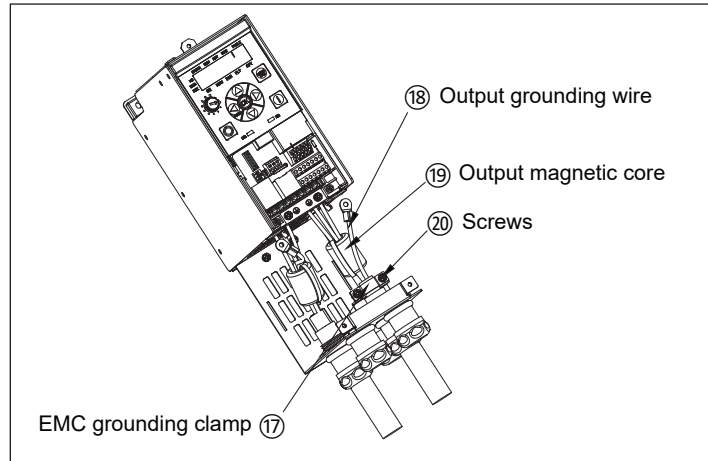

Figure 7. Routing the output cable and motor wires.
- B. Run the output cable (3 motor wires + 1 output grounding wire) through the power wires conduit fitting ⑬ and EMC grounding clamp ⑰. Run the 3 motor wires without the output grounding wire through the output magnetic core ⑱. Connect the motor wires to U/V/W terminals. Leave the output grounding wire ⑱ unconnected. Tie the output magnetic core to the output wires with a cable tie. Use the EMC grounding clamp ⑰ and two screws ⑳ to fix output cable shielding layer (see Figure 7).